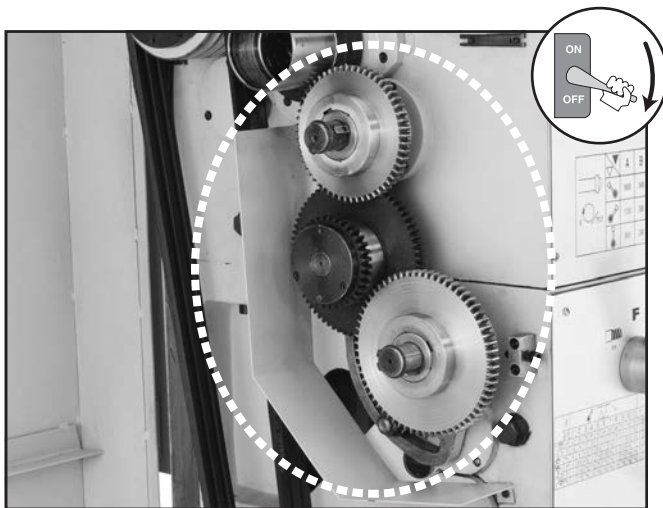

Figure 122. End gears.
The end gears, shown in **Figure 122**, should always have a thin coat of heavy grease to minimize corrosion, noise, and wear. Wipe away excess grease that could be thrown onto the V-belts and reduce optimal power transmission from the motor.
2. Open the end-gear cover and remove all the end gears shown in **Figure 122**.